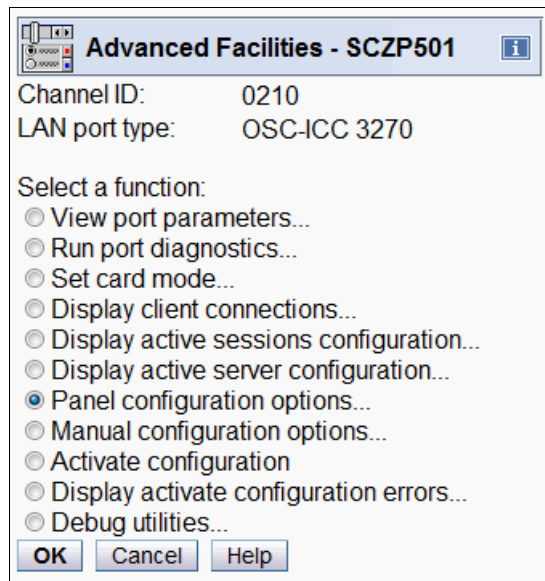

Figure 14-89 OSA Advanced Facilities: Panel configuration options
3. Select **Panel configuration options** and click **OK** (Figure 14-89).